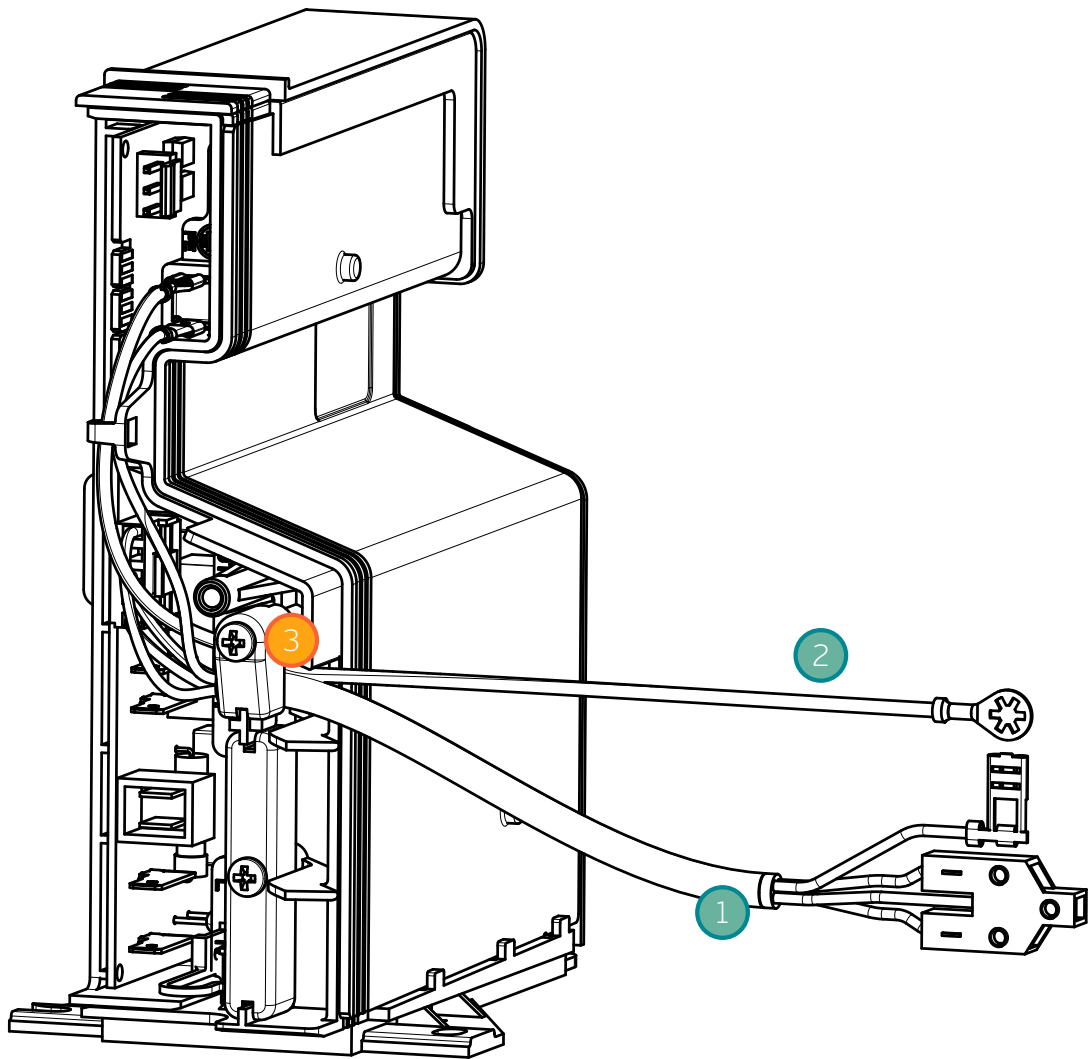

Figure 2.3: Connection cables.
- Do not disassemble the fixing clip indicated on the item 3 on Figure 2.3.